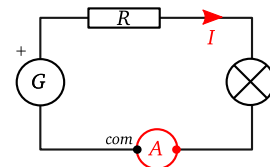

Figure 15.6 – Exercice 10 p.264
**Exercice 10 p.264** Voir figure 15.6.